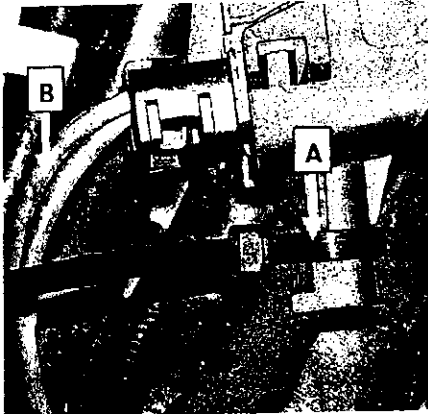

Figure 10: Affixing the SBC wiring harness to the cap of the SBC connector housing
14. Affix SBC wiring harness (A) without ground lines to the cap of the SBC connector housing using a new cable tie and affix ground wiring harness (B) to the SBC connector housing using a new cable tie (see Figure 10)